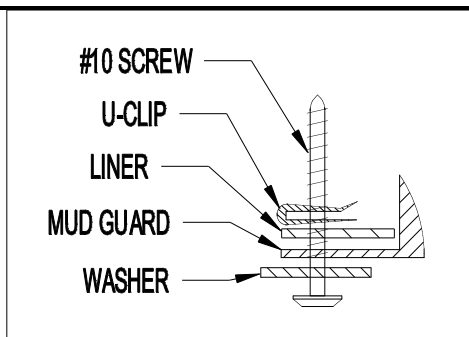

Figure 2
6. Install #10 screw and washer at location C, thru mud guard, fender liner and into a U-clip (Figure 2). DO NOT install U-clip over fender liner.